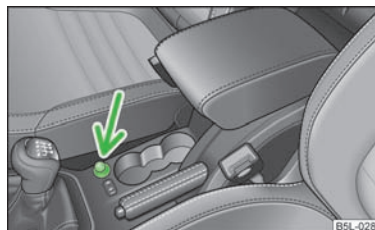

Fig. 69
- Press in the button of the cigarette lighter » Fig. 69.
In the front centre console - » Fig. 69.